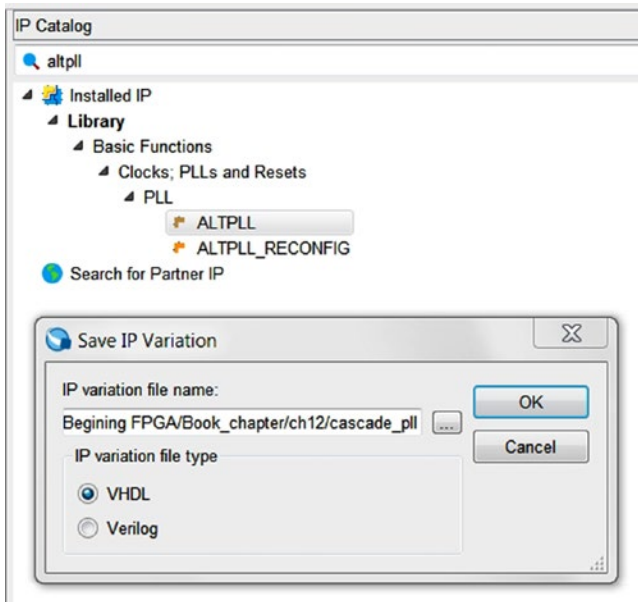

Figure 12-23. IP Catalog—Altera PLL IP for cascade
Step 1: In the IP Catalog, search for **altpll**, select **ALTPLL**, and **double-click** it as shown in Figure 12-23. A new IP variation window pops up. Enter **cascade_pll** at the end of the IP variation file name. Select **VHDL**. Click **OK**